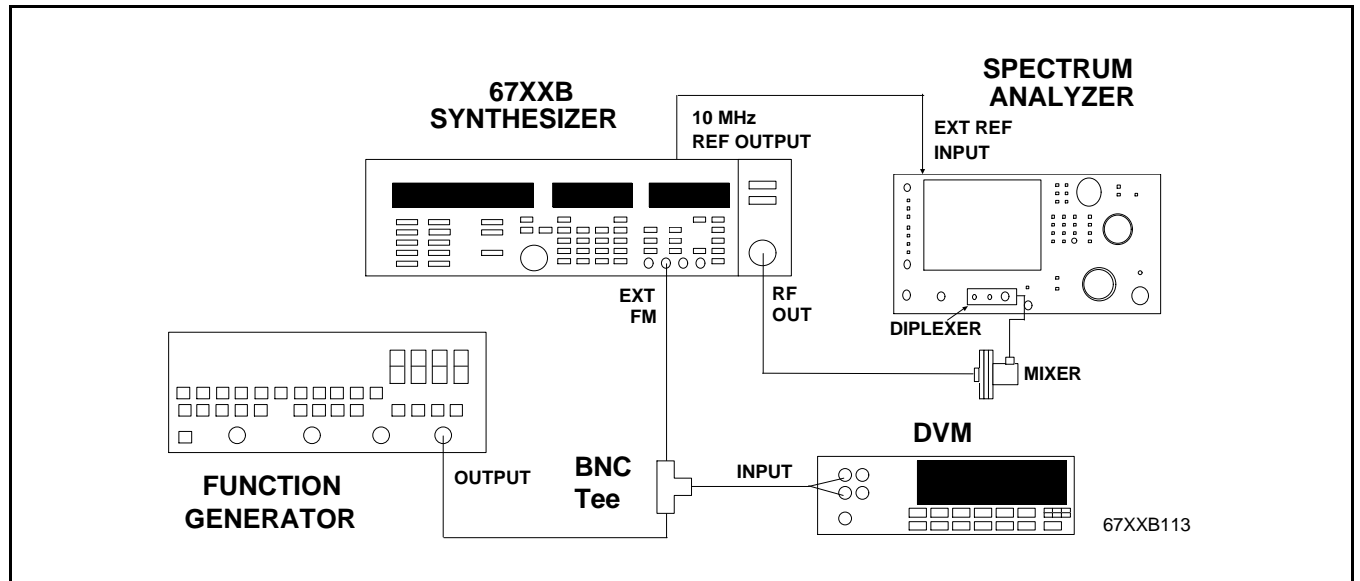

Figure 3-19. Test Equipment Setup for FM Flatness Calibration (20 to 60 GHz)
1. Connect the equipment, shown in Figure 3-19, as follows: